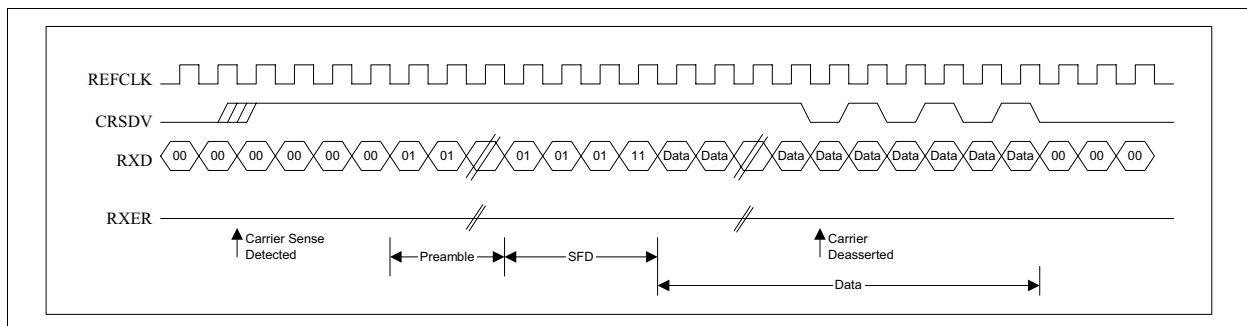

Figure 6 RMI Reception Without Error
Figure 6 shows the relationship among REFCLK, CRSDV, RXD and RXER while receiving a valid packet. Carrier sense is detected, which causes CRSDV to assert asynchronously to REFCLK. The received data is then placed into the FIFO for resynchronization. After a minimum of 12 bits are placed into the FIFO, the received data is presented onto RXD[1:0] synchronously to REFCLK. Note that while the FIFO is filling up RXD[1:0] is set to 00 until the first received di-bit of preamble (01) is presented onto RXD[1:0]. When carrier sense is de-asserted at the end of a packet, CRSDV is de-asserted when the first di-bit of a nibble is presented onto RXD[1:0] synchronously to REFCLK. If there is still data in the FIFO that has not yet been presented onto RXD[1:0], then on the second di-bit of a nibble, CRSDV reasserts. This pattern of assertion and de-assertion continues until all received data in the FIFO has been presented onto RXD[1:0]. RXER is inactive for the duration of the received valid packet.